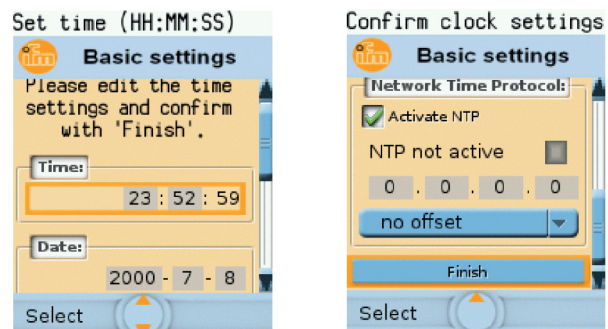

Fig. 86: Setting the system time - option 1 and 2
- $[Time]$ and $[Date]$ display the current system time, see Fig. 86
- Select the time zone of the NTP server in the list (UTC format), see Fig. 86